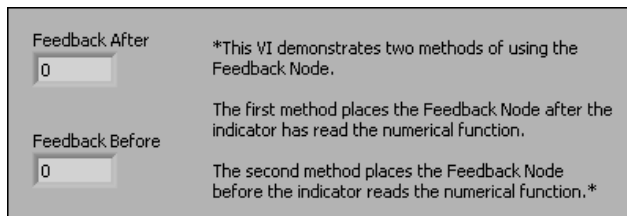

Figure 4.15
1. Open the Feedback VI located in the C:\Exercises\LabVIEW Basics I directory. The front panel shown in Figure 4.15 is already built.